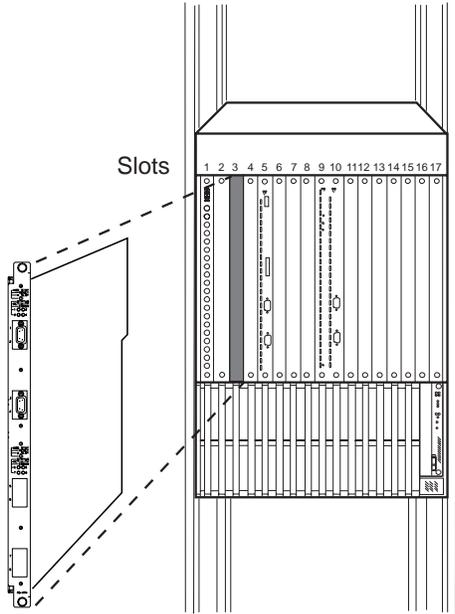
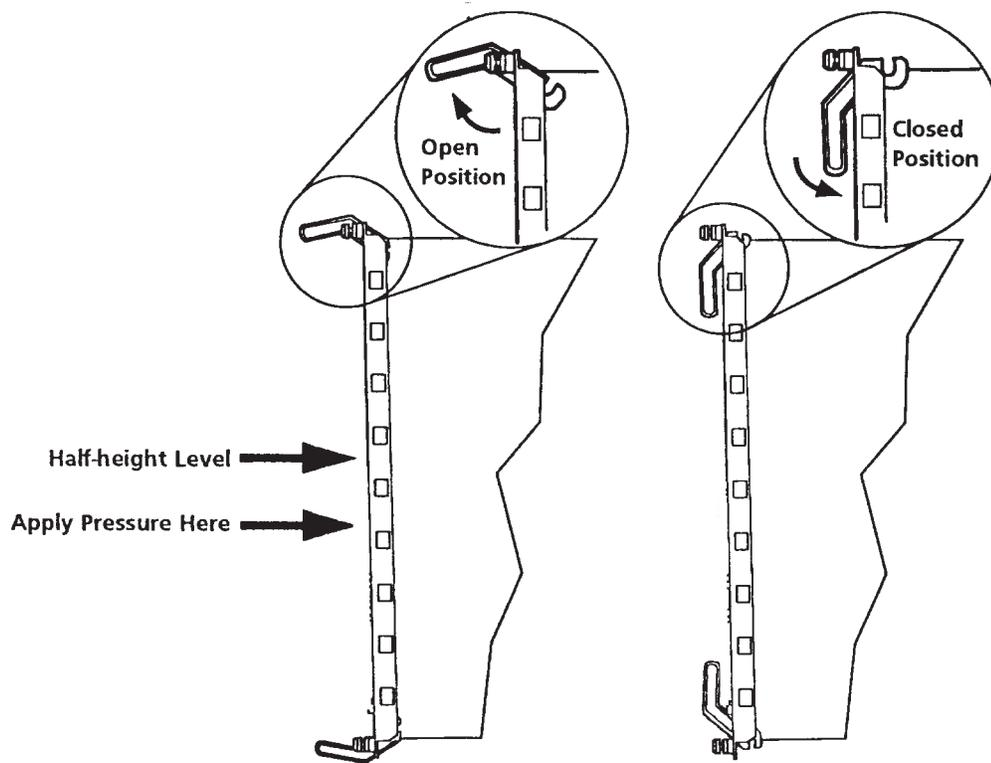

Figure 1. Inserting the Module in an 8265 ATM Switch
Figure 2. 8265 ATM Switch Module Ejectors
- 3 Insert the module into the slot as shown in Figure 1, matching the top and bottom board guides as you slide the module cleanly into place (by pressing evenly on the top and bottom of the faceplate). Do not attempt to push the module all the way in until you have verified that the top and bottom module ejectors are OPEN (see Figure 2 on page 8.)